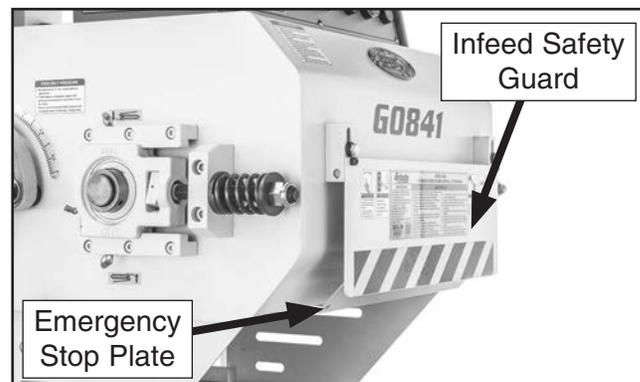

Figure 34. Location of emergency stop plate.
24. Use a pushstick or workpiece to push emergency stop plate on front of machine (see **Figure 34**). **DO NOT** push emergency stop plate by hand!